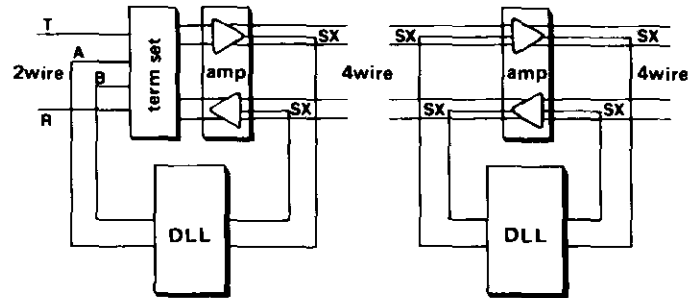

figure 2. Typical 2w-to-4w and 4w-to-4w interfaces
side of the 7501, this interface is accomplished by connecting the TIP STA and RING STA leads of the 7501 to the station-side A and B elads or SX leads of the 4wire device. Figure 2 shows 2wire-to-4wire and 4wire-to-4wire interfaces involving the 7501.
3.07 Switch *S8* conditions the 7501 to interface 2wire or 4wire transmission equipment (e.g., a line amp, repeater, or term set) on either or both sides. If the module interfaces 2wire transmission equipment on both the switch and station sides, set *S8* to the 2W position. If the module interfaces a 4wire transmission device on either side or on both sides, set *S8* to the 4W position; also ensure that the 7501's T and R leads on the side(s) where the 4wire device(s) is located are connected to the A and B leads or SX leads on the corresponding side(s) of the 4wire device. (See paragraph 2.03 and figure 2 for details.)